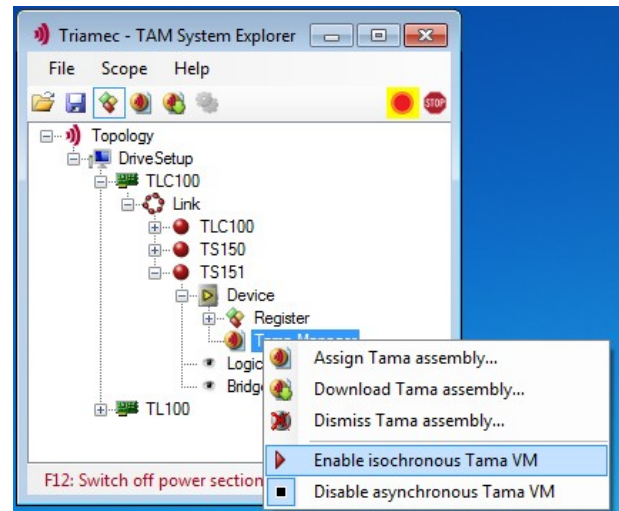

Figure 30: Context Menu of the Tama Manager. The menu entries also indicate whether the virtual machines are currently enabled or not.
1. Open the context menu with a right click on the *Tama Manager* (Figure 30).